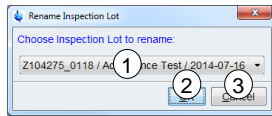
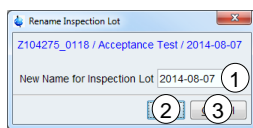

Figure 5-14: Rename Inspection Lot – choose Inspection Lot
Figure 5-15: Rename Inspection Lot – rename
- (1) Select the Inspection Lot to rename from the list (Figure 5-14 (1)) of available Inspection Lots.
- (2) Click **OK** (Figure 5-14 (2)) to continue to rename the Inspection Lot. The subsequent dialog shown in Figure 5-15 opens.
- (3) Click **Cancel** (Figure 5-14 (3)) to abort renaming an Inspection Lot.
- (1) **New Name for Inspection Lot**
Enter an individual **New Name for Inspection Lot** (Figure 5-15 (1)) (permitted characters, see chapter 2.2). The old name is suggested as a default (see Figure 5-15).
- (2) Click **OK** (Figure 5-15 (2)) to finish renaming the Inspection Lot.
- (3) Click **Cancel** (Figure 5-15 (3)) to abort renaming the Inspection Lot.